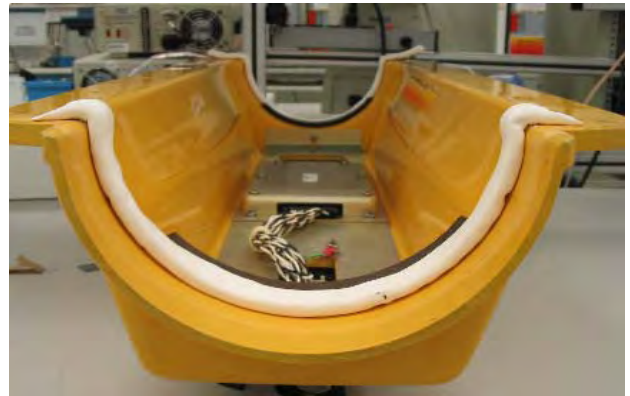

Figure 8
- d. Repeat on remaining seal ends. The resulting taper cut seal ends are shown in Figure 8.